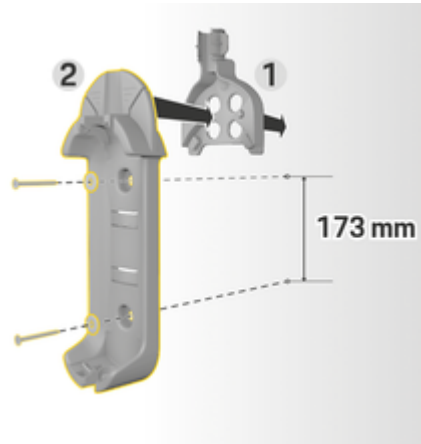

Fig. 6 Drilling dimensions
3. Press the basic wall mount 2 (Fig. 6) into the cable guide 1 (Fig. 6) from the front.